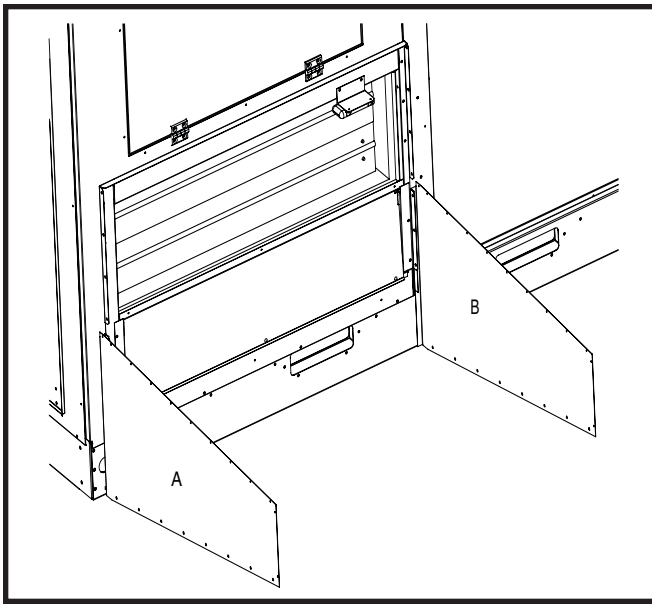

Figure 5. Exhaust hood sides installed
- Install exhaust hood sides. "A" then "B". See Figure 5.